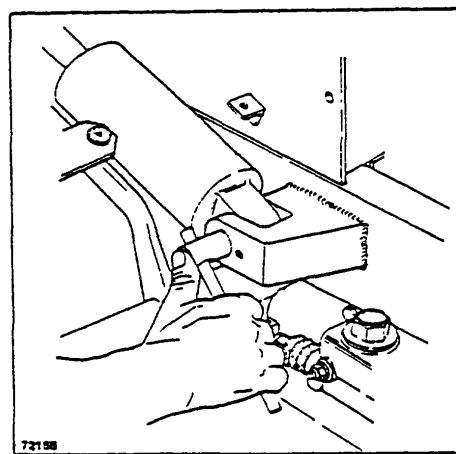

Figure 3-2. Tilt Cylinder Pin Removal
6. Insert drift pin (Fig 3-2) in hole provided for it in tilt cylinder mounting pin, and remove pin. The tilt cylinder may then be lifted from location.